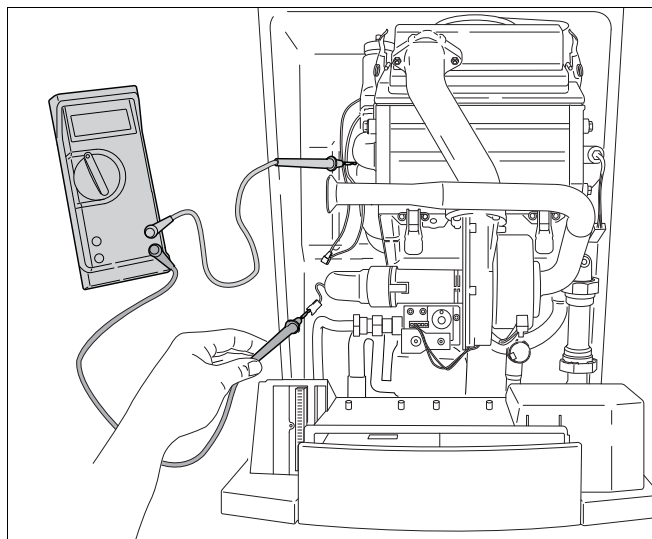
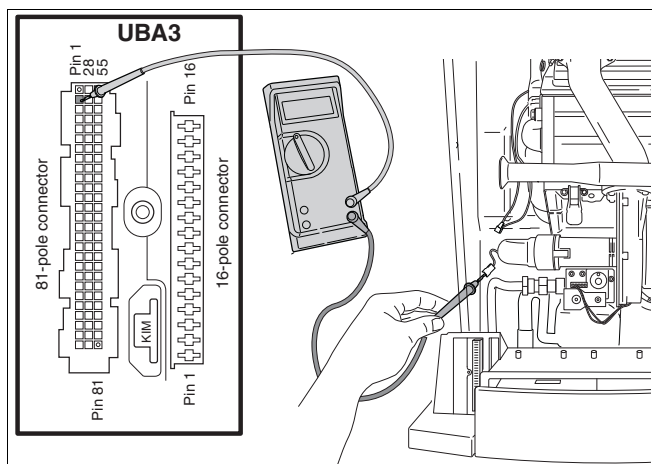

fig. 27 Testing the earth connection circuit of the ionization electrode (1)
fig. 28 Testing the earth connection circuit of the ionization electrode (2)
- Test the ionization cable between the plug and socket connection and the UBA 3 installation base to make sure that it has no short circuit to earth (see fig. 27 and fig. 110 on page 126) and that it is not broken anywhere (see fig. 28).
- Test the earth connection circuit of the ionization electrode (see fig. 27). The height of the resistance value must be infinite.